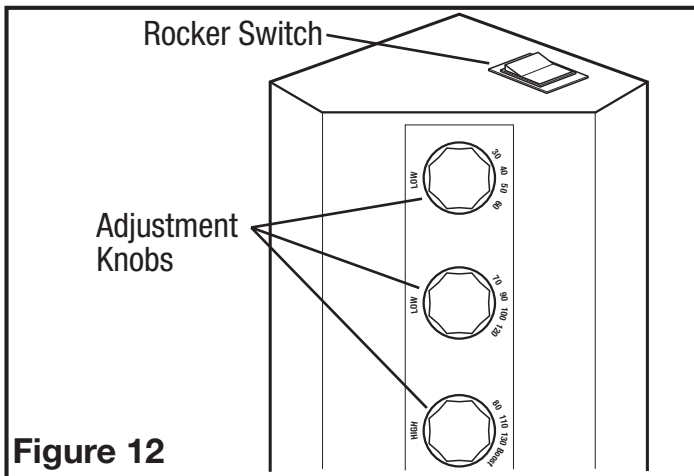

Figure 12
4. **VARIABLE SPEED MODELS:** First decide if you will require more or less than 65 CFM of ventilation on the low speed setting. If it is less than 65 CFM place the Low CFM Range rocker switch on the 30-60 range. If it is more, place the low CFM range rocker switch on the 70-120 range. Once you have decided on the minimum required airflow, the fans low speed CFM level can be adjusted by using either the lower adjustment knob (30-60 CFM) or the middle adjustment knob (70-120 CFM). The desired high speed CFM can be adjusted by using the upper most adjustment knob (**Figure 12**).